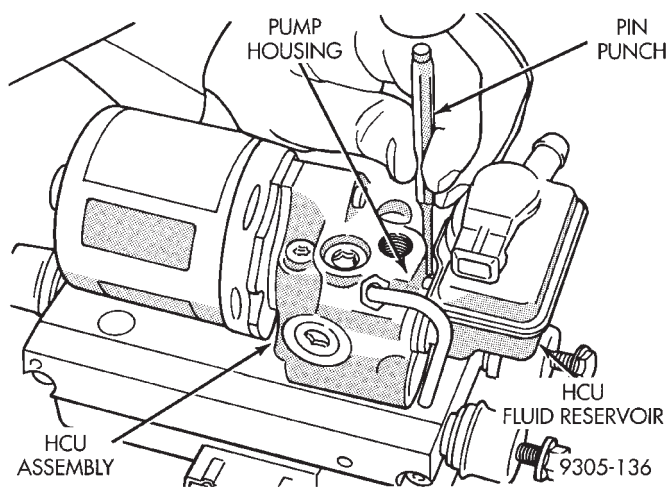

Fig. 2 Removing (HCU) Reservoir Retaining pin
(1) Remove the (HCU) assembly from the vehicle. Refer to Hydraulic Control Unit Removal, in this section of the service manual for the required removal procedure.
(2) Drain brake fluid from (HCU) fluid reservoir.
(3) Using a 1/8 in. pin punch, drive (HCU) fluid reservoir retaining roll pin down until it is below hole in fluid reservoir (Fig. 2). Note: If replacing reservoir on a (HCU) with traction control, drive pin completely out of pump housing.